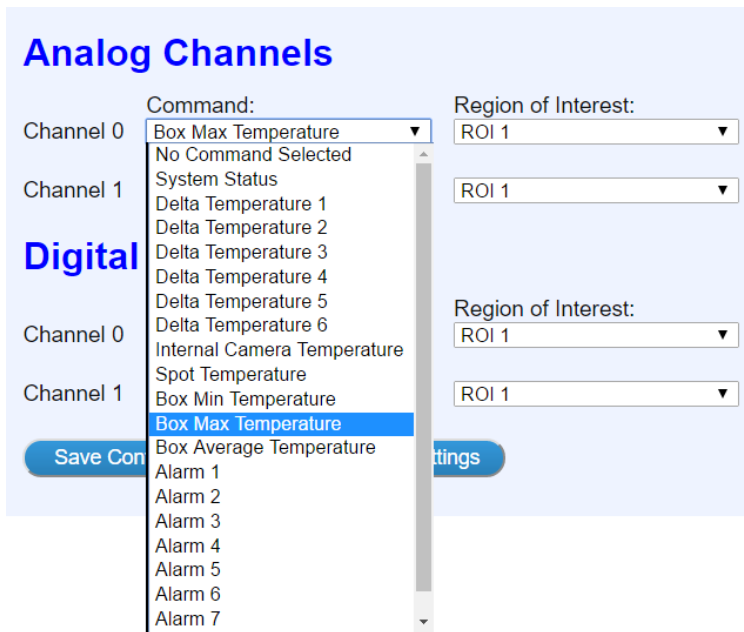

Figure 13: Command pull-down menu options
- 1) Select a Command from the left-most pull-down menu (as shown in Figure 13)